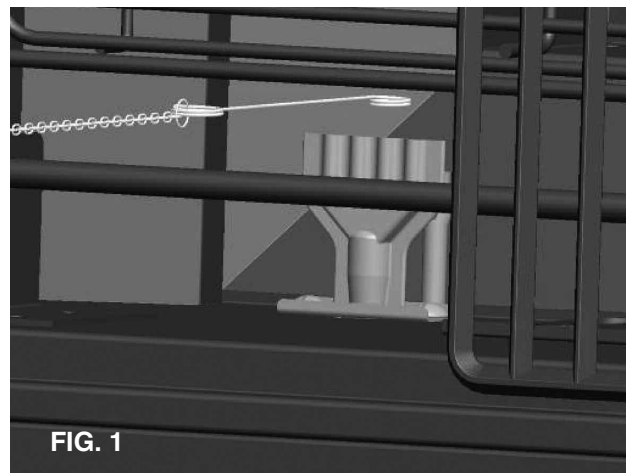

FIG. 1
5. Immediately place the lit match next to the charcoal ignition burner on the inside front of the grill (Fig 1).